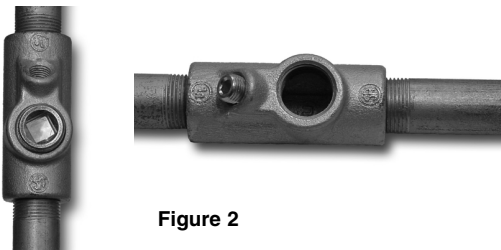

Figure 2
7. In vertical installations, if the EYS sealing fitting is the type with two threaded openings replace the threaded plug in the bottom opening. The sealing compound will be poured into the top opening. In horizontal installations, replace the plug in the smaller opening, the sealing compound will be poured into the larger opening. See Figure 2.